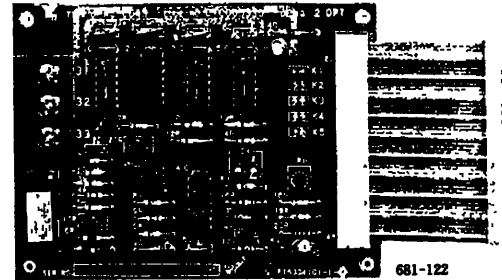

Fig. 15.17 Syhchronized Starter
JPAC-C 043 (Fig. 15.17) is for starting the free running motor at a frequency corresponding to the motor speed. If a low frequency AC power is applied to a free-running motor, the motor is regeneratively braked to generate large current to trip the overload protector (OV).